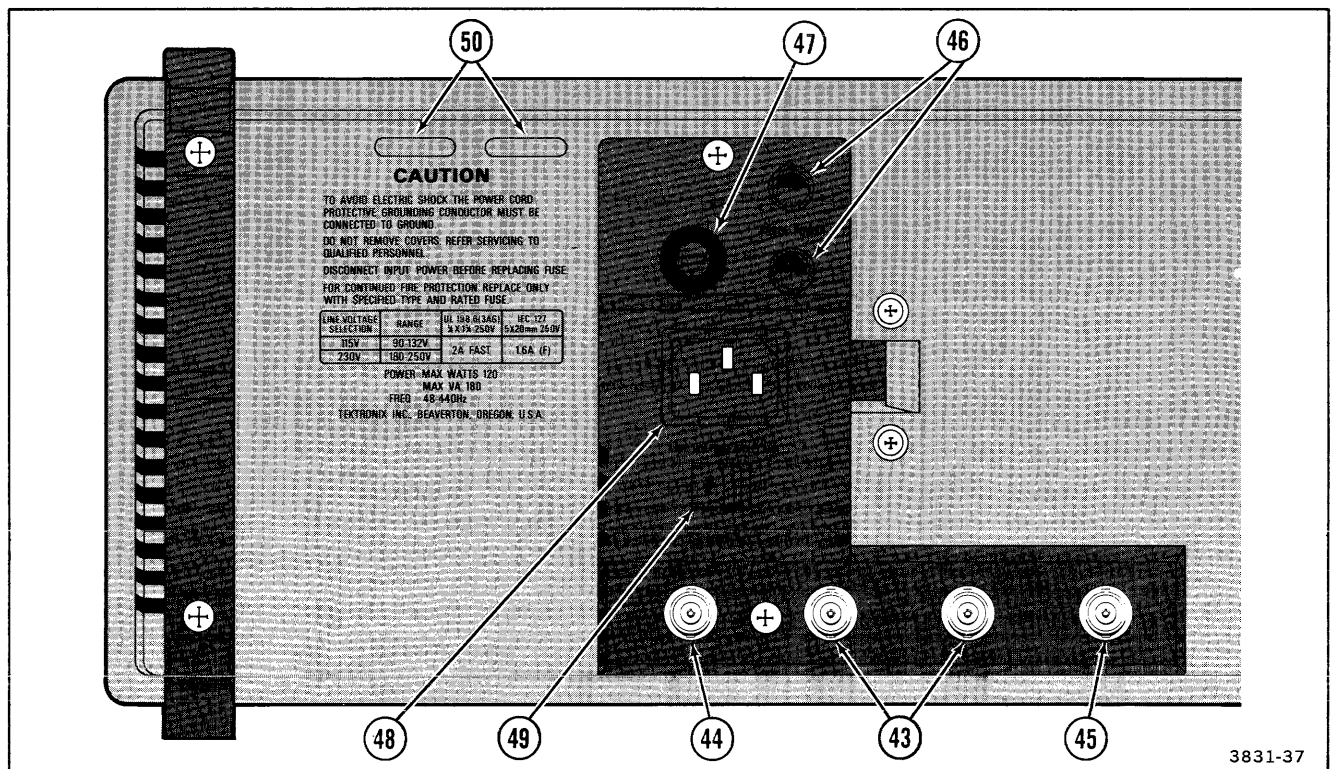

Figure 2-7. Rear-panel controls and connectors.
Refer to Figure 2-7 for location of items 43 through 50.